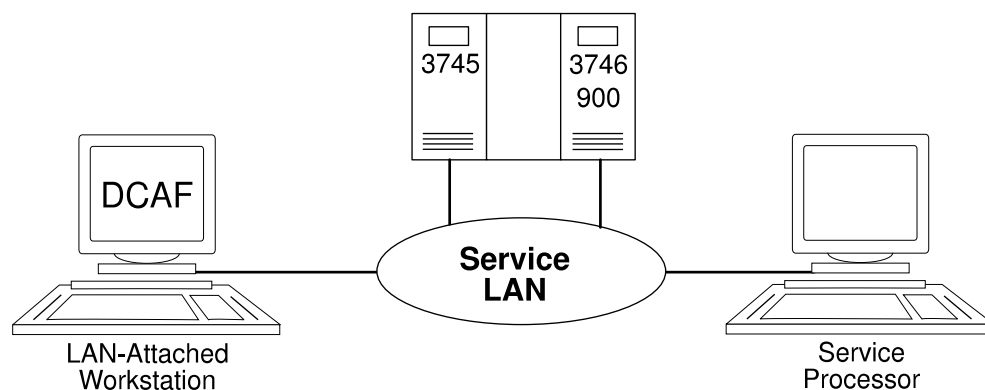

Figure 5-1. Token-Ring LAN (APPC Type) Configuration
- Configure a DCAF session for controlling the service processor (see Figure 5-1).